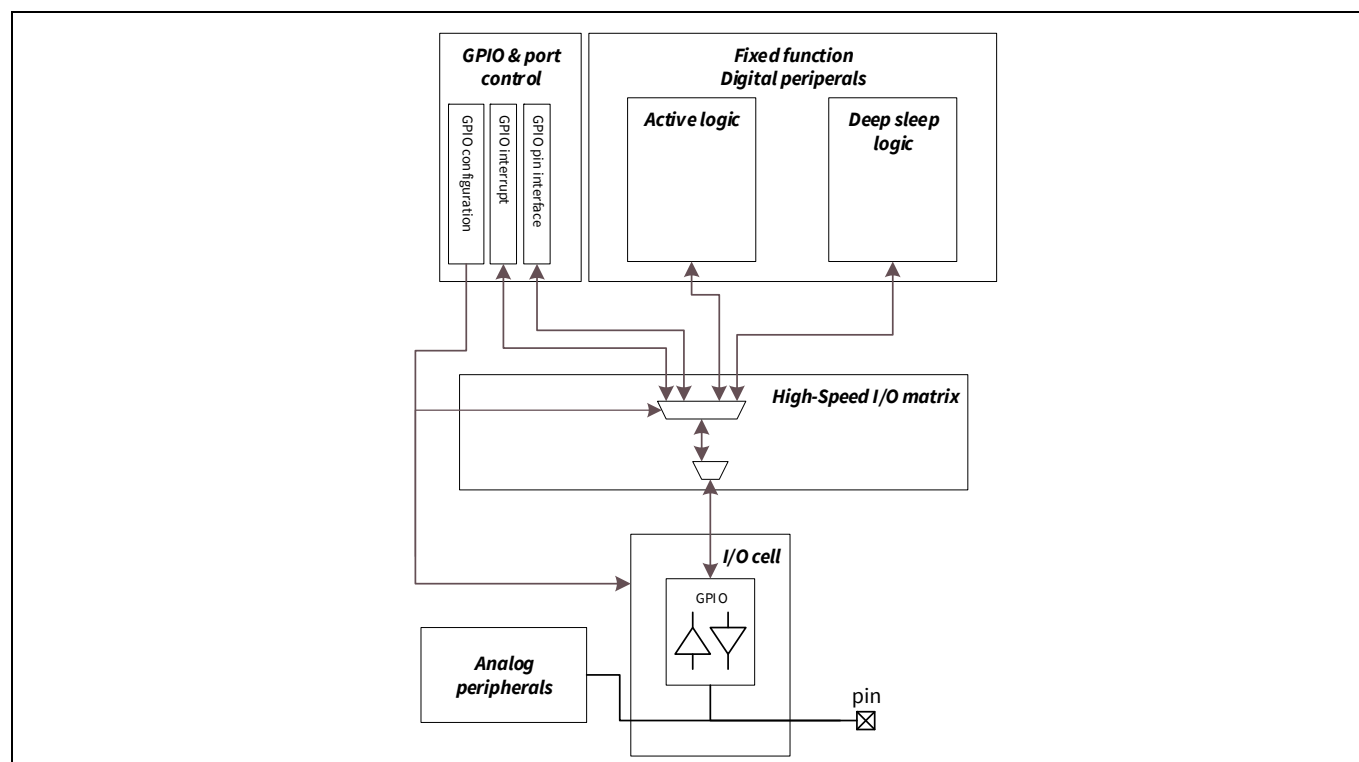

Figure 22-1. GPIO interface overview
- XMC7000 is equipped with analog and digital peripherals. Figure 22-1 shows an overview of the routing between the peripherals and pins.